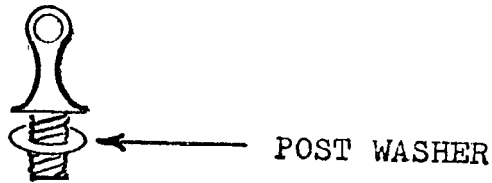

Figure 49
- c) Slip one post shim over the threaded end of the post (Figure 49).